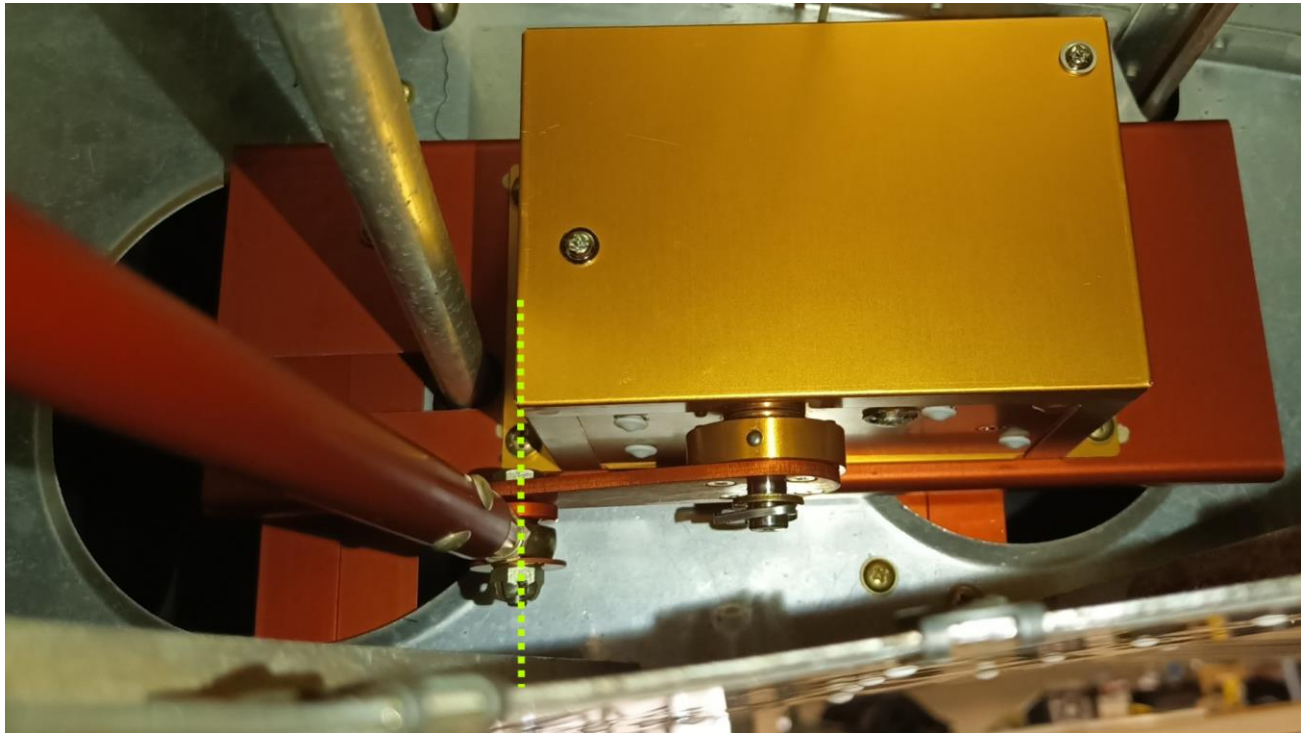

FIGURE 4-2 ROLL SERVO INSTALLATION WITH FUEL LINE
- 4.1.2 If your aircraft has wing tip fuel tanks it may be necessary to trim the roll servo bracket to ensure proper clearance from the fuel line. See Figure 4-2.
- 4.1.4 In the neutral position (LNAV = 0.0) the servo arm push/pull tube bolt must be at or forward (No more than 0.5") of the bottom forward reinforcement angle. See Figure 4-2.
- 4.1.14 Attach any necessary nutplates (provided) to the bracket and/or angle stiffeners depending on configuration. Refer to Figure 4-2 for standard configuration.
- 4.1.23 An exploded view of a typical roll servo installation can be found in Figure 4-2.